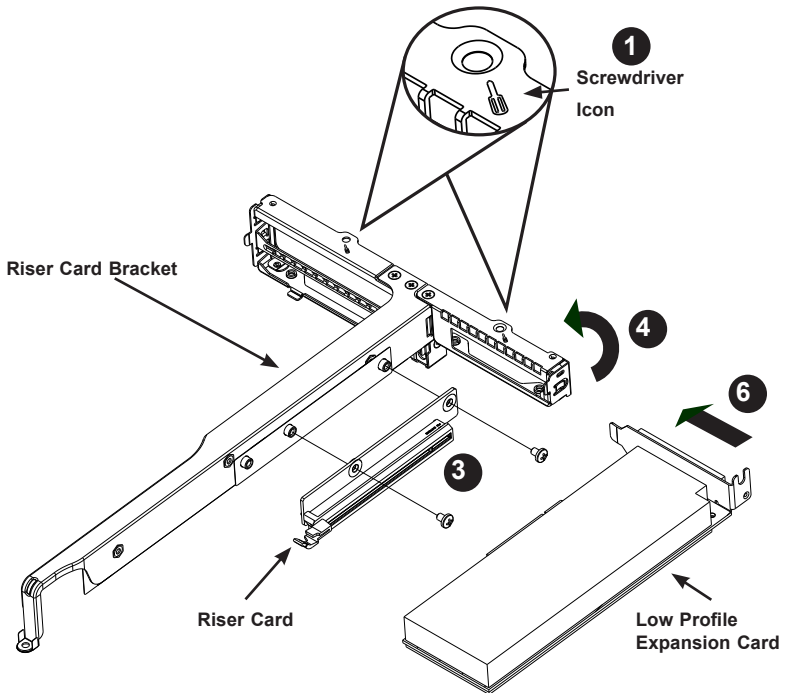

Figure 6-8. Installing the Riser and Expansion Cards in the Bracket
1. Remove the riser card bracket from the chassis by unscrewing only those screws indicated by the screwdriver icon as illustrated in Figure 6-8.